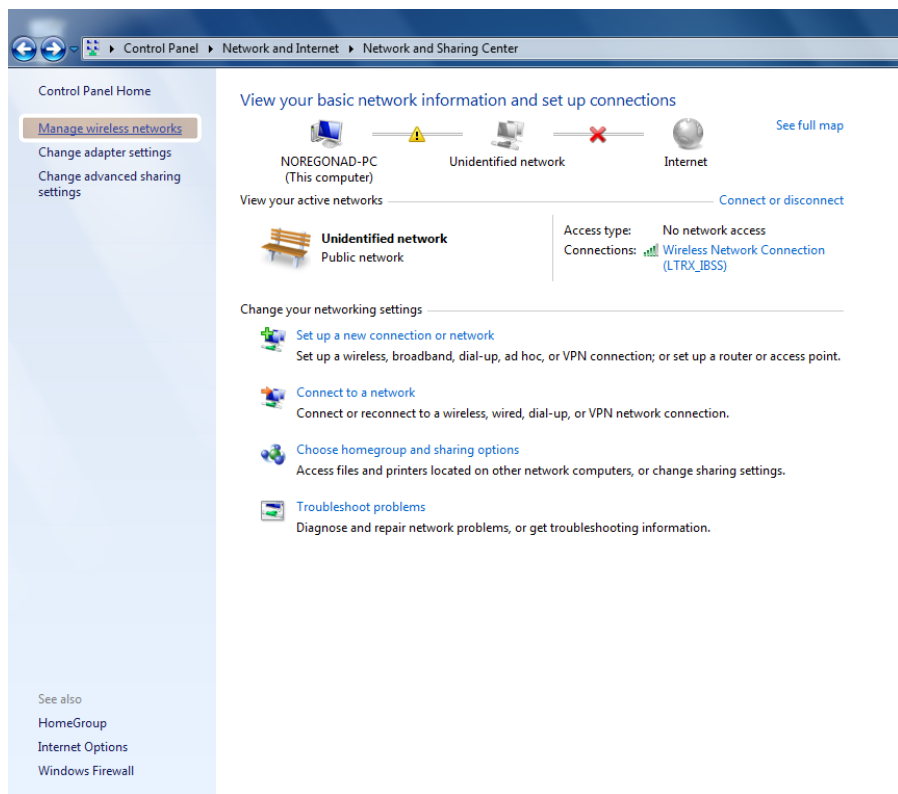

Figure 27
13. On the left side of the dialog, click the **Manage Wireless Networks** link (see highlighted box in Figure 27 below).